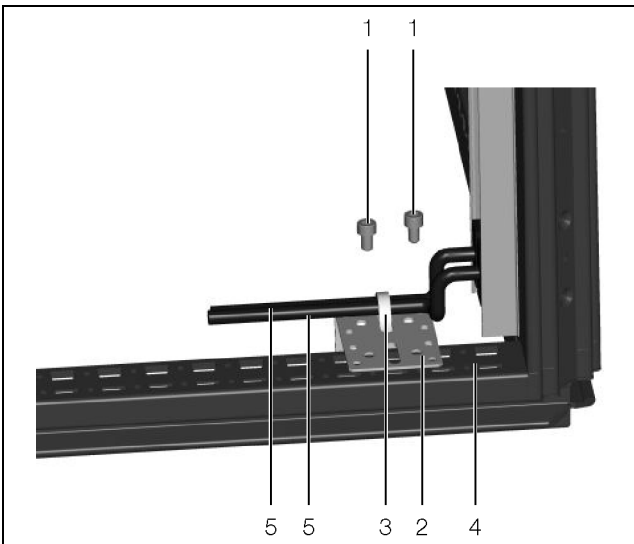

Fig. 7: Fitting the strain relief (alternative 2)
■ Alternatively, secure the bracket (fig. 7, item 2) to the side base frame (fig. 7, item 4) from above using the screws provided (fig. 7, item 1).